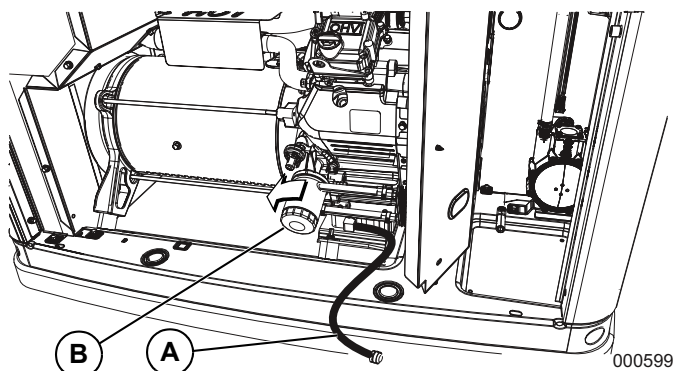

Figure 4-2. Oil Filter and Drain Location
2. A few minutes after the engine shuts OFF, when it has cooled slightly, lift the lid and remove the front panel. Pull the oil drain hose free of its retaining clip. See (A) in Figure 4-2. Remove the cap from the hose and drain the oil into a suitable container.
4. With the oil drained, remove the old oil filter by turning it counterclockwise. For filter location, see (B) in Figure 4-2.